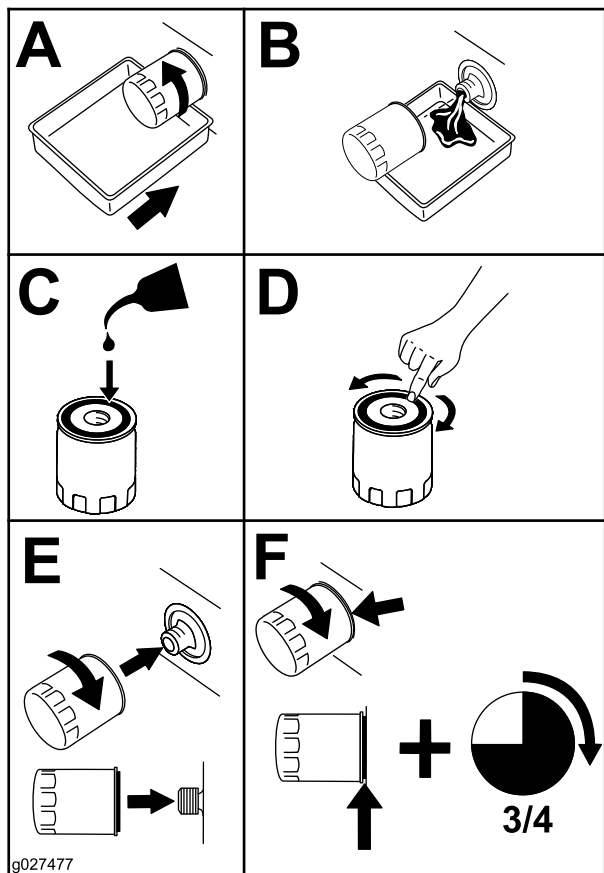

Figure 55
2. Change the engine-oil filter (Figure 55).